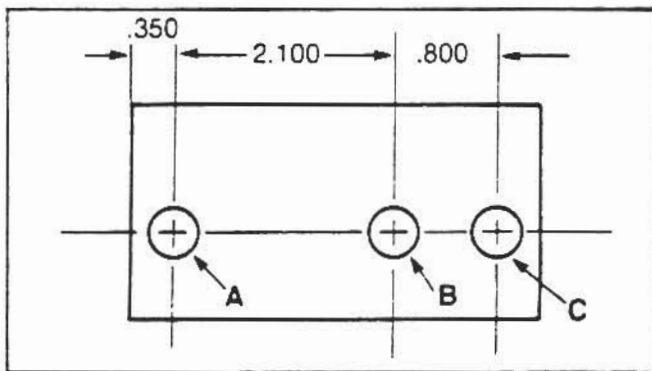

Figure 4-2. Incremental Preset Example.
- 3) Enter the number to be preset and the correct sign (+ or -). If a mistake is entered, the preset function can be started again by pressing the **CLEAR** key. Figure 4-2 illustrates an example of dimensioning where incremental presetting would be used. Figure 4-2 indicates the preset signs (+ or -), relative to the axis signs.